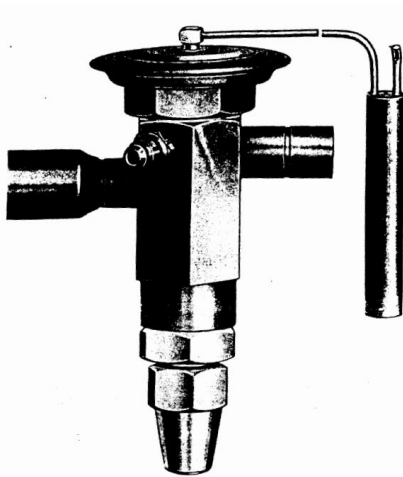

Figure 13-11 A thermostatic expansion valve. (Sporlan Valve Co.)
- The balances of the flow rate between the compressor and superheat-controlled expansion valve are therefore practically identical to those shown for the float valve in Fig. 13-10. Figure 13-11 is a photograph of a thermostatic expansion valve.